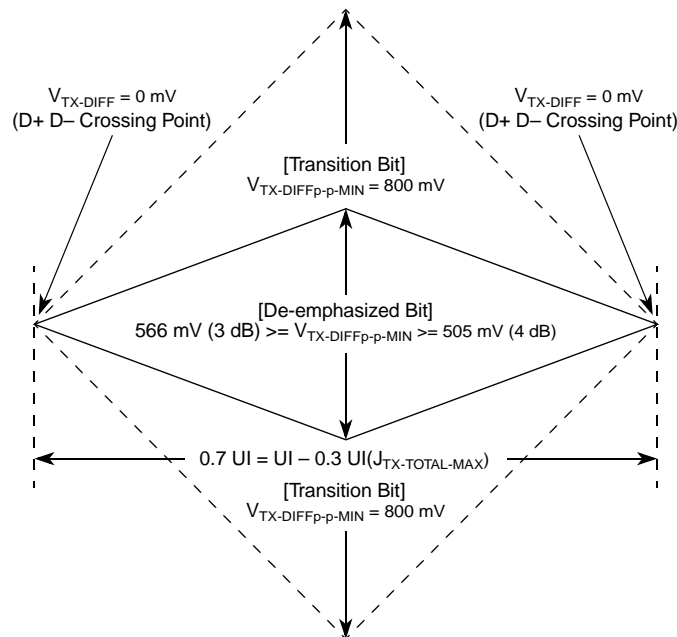
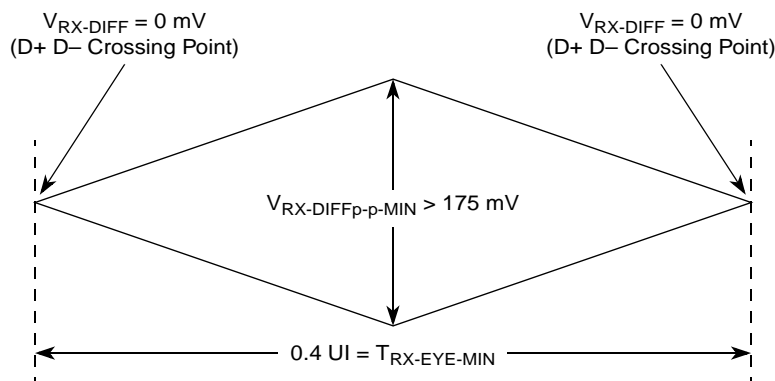
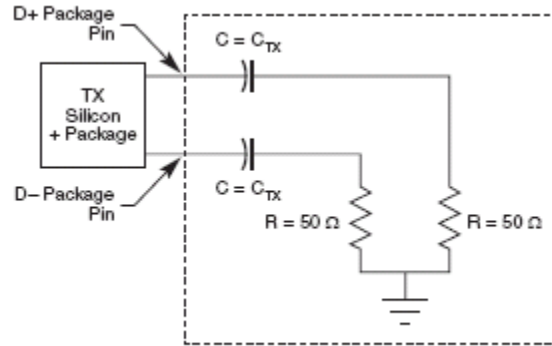

Figure 49. Minimum Transmitter Timing and Voltage Output Compliance Specifications
Figure 50. Minimum Receiver Eye Timing and Voltage Compliance Specification
Figure 51. Compliance Test/Measurement Load
2. Specified at the measurement point into a timing and voltage compliance test load as shown in Figure 51 and measured over any 250 consecutive TX UIs. (Also refer to the transmitter compliance eye diagram shown in Figure 49.)
4. The transmitter input impedance shall result in a differential return loss greater than or equal to 12 dB and a common mode return loss greater than or equal to 6 dB over a frequency range of 50 MHz to 1.25 GHz. This input impedance requirement applies to all valid input levels. The reference impedance for return loss measurements is 50 Ω to ground for both the D+ and D- line (that is, as measured by a vector network analyzer with 50- Ω probes, see Figure 51). Note that the series capacitors, C_{TX} , is optional for the return loss measurement.
5. Measured between 20%–80% at transmitter package pins into a test load as shown in Figure 51 for both V_{TX-D+} and V_{TX-D-} .
The TX eye diagram in Figure 49 is specified using the passive compliance/test measurement load (see Figure 51) in place of any real PCI Express interconnect + RX component. There are two eye diagrams that must be met for the transmitter. Both diagrams must be aligned in time using the jitter median to locate the center of the eye diagram. The different eye diagrams differ in voltage depending on whether it is a transition bit or a de-emphasized bit. The exact reduced voltage level of the de-emphasized bit is always relative to the transition bit.
2. Specified at the measurement point and measured over any 250 consecutive UIs. The test load in Figure 51 should be used as the RX device when taking measurements (also refer to the receiver compliance eye diagram shown in Figure 50). If the clocks to the RX and TX are not derived from the same reference clock, the TX UI recovered from 3500 consecutive UI must be used as a reference for the eye diagram.
4. The receiver input impedance shall result in a differential return loss greater than or equal to 15 dB with the D+ line biased to 300 mV and the D- line biased to -300 mV and a common mode return loss greater than or equal to 6 dB (no bias required) over a frequency range of 50 MHz to 1.25 GHz. This input impedance requirement applies to all valid input levels. The reference impedance for return loss measurements for is 50Ω to ground for both the D+ and D- line (that is, as measured by a vector network analyzer with $50-\Omega$ probes, see Figure 51). Note that the series capacitors, C_{TX} , is optional for the return loss measurement.
The RX eye diagram in Figure 50 is specified using the passive compliance/test measurement load (see Figure 51) in place of any real PCI Express RX component. In general, the minimum receiver eye diagram measured with the compliance/test measurement load (see Figure 51) is larger than the minimum receiver eye diagram measured over a range of systems at the input receiver of any real PCI Express component. The degraded eye diagram at the input Receiver is due to traces internal to the package as well as silicon parasitic characteristics which cause the real PCI Express component to vary in impedance from the compliance/test measurement load. The input receiver eye diagram is implementation specific and is not specified. RX component designer should provide additional margin to adequately compensate for the degraded minimum Receiver eye diagram (shown in Figure 50) expected at the input receiver based on an adequate combination of system simulations and the return loss measured looking into the RX package and silicon. The RX eye diagram must be aligned in time using the jitter median to locate the center of the eye diagram.
The reference impedance for return loss measurements is $50\ \Omega$ to ground for both the D+ and D- line (that is, as measured by a Vector Network Analyzer with $50\ \Omega$ probes—see Figure 51). Note that the series capacitors, $C_{PEACCTX}$, are optional for the return loss measurement.
The AC timing and voltage parameters must be verified at the measurement point, as specified within 0.2 inches of the package pins, into a test/measurement load shown in Figure 51.